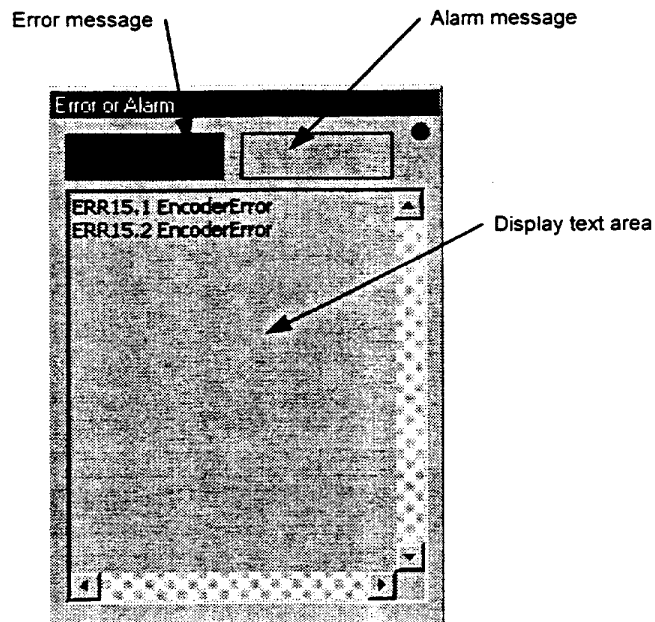

Figure 7.13 “Error or Alarm” dialog box
In the “Terminal,” click “*Error or Alarm (S)*” under “Monitor” to display the “Error or Alarm” dialog box (see figure 7.13).